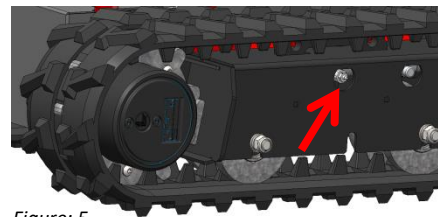

Figure: 5
- The tracks are tensioned by fitting the grease gun to the grease nipple in the centre of the track and pumping until the grease gun provides greater resistance (see *figure 5*). The crawler tracks must be tight.